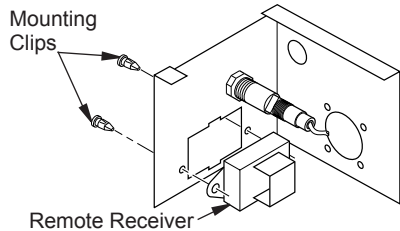

Figure 28 - Installing Remote Receiver
5. Push clips firmly into place (see Figure 28).